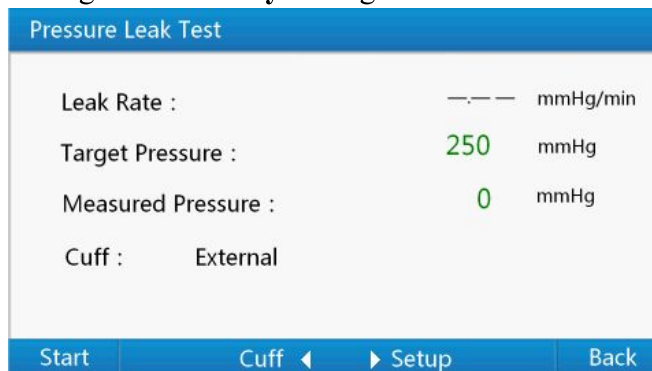

Figure 10 Pressure leak test interface
- 1) Use up or down key in "**Pressure Test Menu**" to select "**Pressure Leak**", then press "**Enter Key**" to "**Pressure Leak Test**" interface shown as Figure 10, As a shortcut, you can use number key "**1**" to this interface quickly, In this interface, pressing "**Return Key**" can get back to "**Pressure Test Menu**".